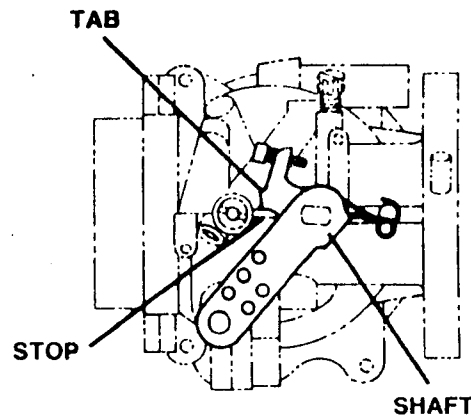

Figure 9-7. Fully Advanced Engine Throttle
4. If the reservoir was empty and the throttle is sluggish or does not fully advance, the throttle line is not full or air is trapped in the system. Try pumping the throttle grip several times to draw oil into the system. Check for full throttle operation by looking at the carburetor from the top and locating the tab on the shaft assembly that goes through the carburetor. The tab and shaft will rotate as the throttle grip is squeezed. While watching the tab, fully advance the throttle grip. The tab should contact a stop that is part of the carburetor body. See figure 9-7. If the tab contacts the stop, no further action is required. If it does not, open the reservoir's filler cap and, with a narrow brass rod, depress the ball inside the check valve to open it. See figure 9-8. With the check valve open, slowly squeeze the throttle grip to force air and oil into the reservoir. Then release the throttle grip slowly to draw oil back into the system. Remove the brass rod and check for full throttle operation.